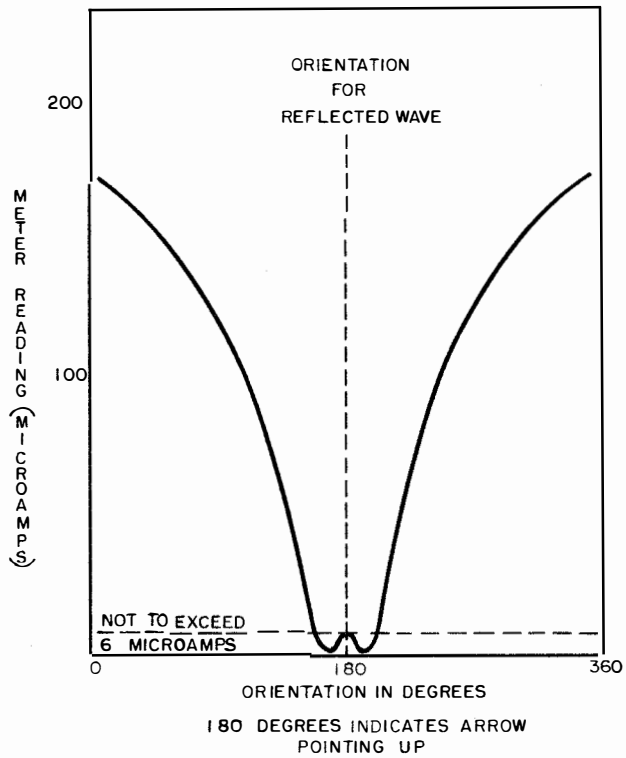

Figure 5-12. Reflectometer Response Curve
It should show a double minimum reading with a slight rise between. See figure 5-12. This rise should be no greater than 3% (microamperes) of full-scale reading at the high end (389.8 mc) of the frequency range. An exact zero reading is unnecessary, hence the 1 to 3% of full scale reading is considered satisfactory for indicating a "tuned" condition for the Coupler.
Visual inspection will also reveal the majority of the troubles in the RF Coupling Section. High power loss is usually the result of dirty or corroded contact surfaces. Improper reading of the Tuning Indicator meter will most frequently be the result of improper adjustment of the reflectometer circuit which may cause the crystal diode to become damaged or destroyed. The reflectometer may be checked by loosening the clamp E741 on the reflectometer mount and rotating the case. This should be done only when the Coupler is known to be accurately tuned and operating at optimum conditions. If the meter indication follows the curve given in figure 5-12, proper operation is indicated. The correct position for the reflectometer is determined in the adjustment instructions which appear in paragraph 2.c., this section.
- Step 2. Remove the three drive mechanism mounting screws. See figure 5-12. The unit may now be pulled out as the crank is worked free.